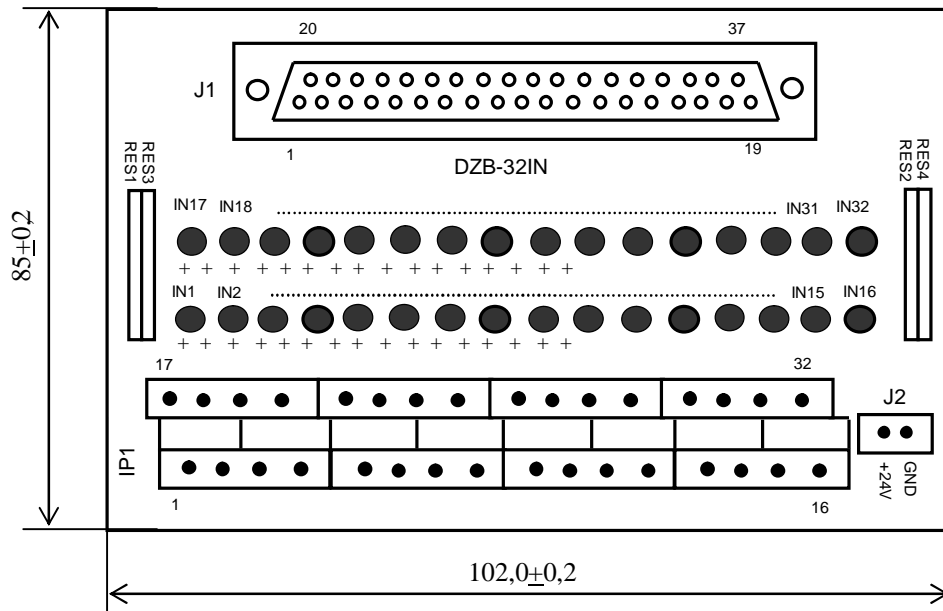

Figure D.1
14.3.1 The appearance of the NC210-402 module is presented in Figure D.1. The module height is 66 mm max. The module can be mounted onto a DIN-strip.